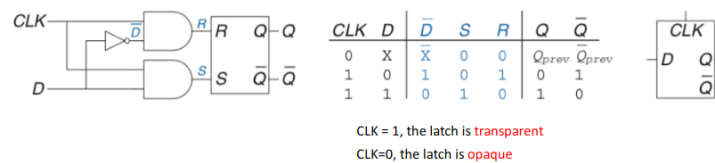

Figure 2: D Latch
2. **D Latch (figure 2):** Data input, D, controls what the next state should be. The clock input, CLK, controls when the state should change. In all cases, Q not is the complement of Q. The D latch avoids the case of simultaneously asserted R and S inputs. *The D latch updates its state continuously while CLK = 1.*